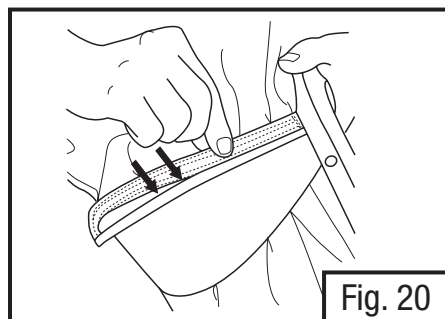

Fig. 20
- Grasp the black gasket and align with the edge of the groove in the top of the visor. Starting on one side press the gasket firmly into the groove in small sections. Both gasket ribs should be fully inserted into the groove (Fig. 20).
- To install the headgear cover, grasp the black gasket and align with the edge of the groove in the top of the visor. Starting on one side press the gasket firmly into the groove in small sections. Both gasket ribs should be fully inserted into the groove (Fig. 20).
- With the visor in the open position, grasp the black gasket on the headgear cover and align with the edge of the groove in the top of the visor. Starting on one side press the gasket firmly into the groove in small sections. Both gasket ribs should be fully inserted into the groove (Fig. 20).